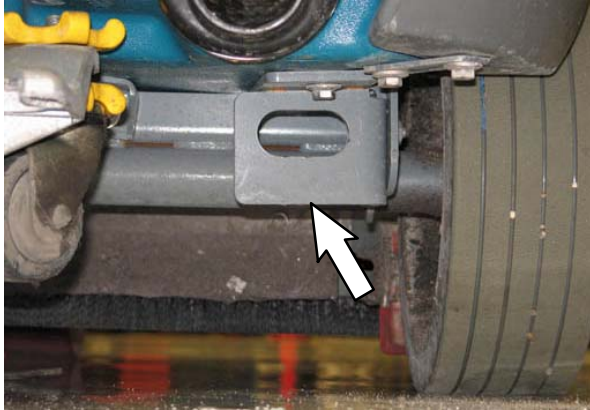

FIG. 1
1. Remove the right tank support bracket and the left tank support bracket from the machine. Set the four M8 X 1.25 X 20 hex screws, the four M8 X 1.25 X 25, and all flat washers aside. Discard both brackets. (Fig. 1 / Fig. 2)